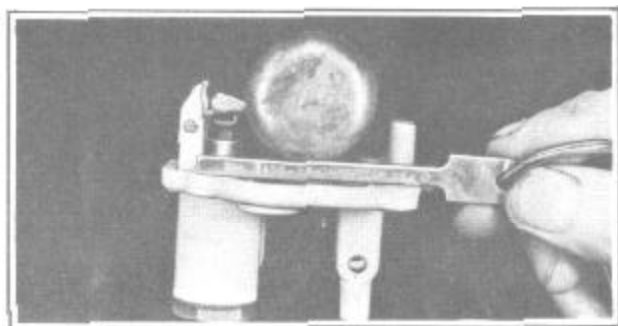

FIGURE 65
3. Install needle float pin and float and lever assembly. Set float level to  $3/16$ " for 6 cylinder, using gauge J-818-3; and  $13/64$ " for 8 cylinder, using gauge J-818-4, Figure 65. Gauge both ends of float from machined surface of casting.